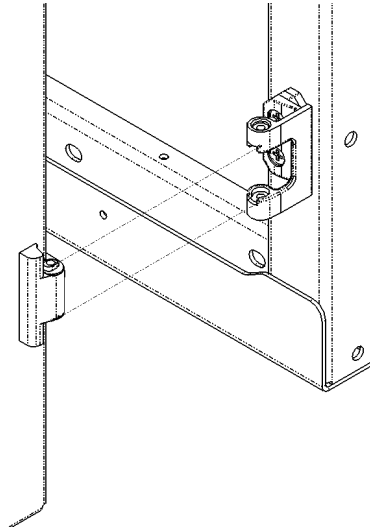

Fig. 2.4.1b Removing the door
3. Hold the door firmly with a hand on each side. Open the door until it is perpendicular to the cabinet, and slide the door out of the hinges (see Fig. 2.4.1b).